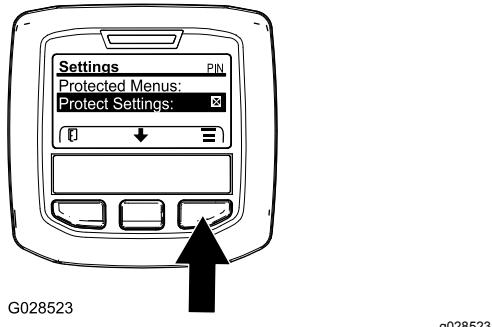

Figure 41
- Access the protected menu and unlock the protected settings submenu (Figure 41); refer to Accessing Protected Menus \(page 23\).